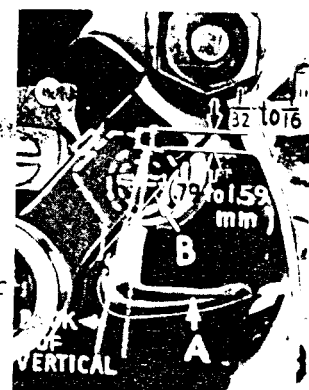

Fig. 8
Insert upper looper (A, Fig. 8) in its holder. Screw (B) holds upper looper in its holder, and permits it to be pushed in or out, or turned around its shank. Insert upper looper holder into upper looper shaft, if it is not already in place. Screw (C, Fig. 8) on clamp holds the upper looper holder in the shaft. Locate upper looper in its holder so that the shank extends 1/32 to 1/16 inch (.79 to 1.59 mm) beyond holder (Fig. 8), for 695B010, 011, 041, 043, 050 and 052, and 1/16 to 3/32 inch (1.59 to 2.38 mm)
When the upper looper is at the right end of its stroke, upper looper holder should be set to position upper looper shank slightly back of vertical on 695B010, 011, 016, 028, 041, 043, 050, and 054 (Fig. 8). On 695B042 upper looper holder should be set to position the upper looper shank about vertically.